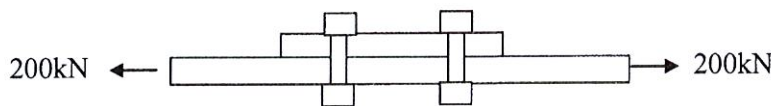

Figure 8
a) Two plates of 8 mm thickness are connected by **TWO (2)** 20 mm diameter bolts as shown in Figure 8. Calculate the shear stress in the bolts.